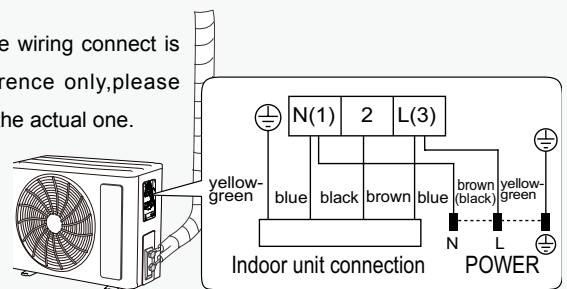

Fig.18
- (1) Remove the wire clip; connect the power connection wire and power cord to the wiring terminal according to the color; fix them with screws.(As show in Fig.18)